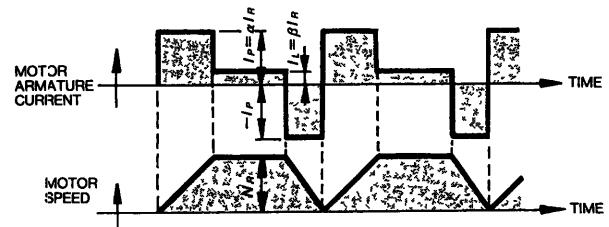

Fig 4.5 Timing Chart of Motor Armature Current and Speed
- When the motor accelerates, runs at constant speed, and decelerates in a continuing cycle without being at standstill (Fig 4.5)
The timing chart of the motor armature current and speed is as shown in Fig 4.5